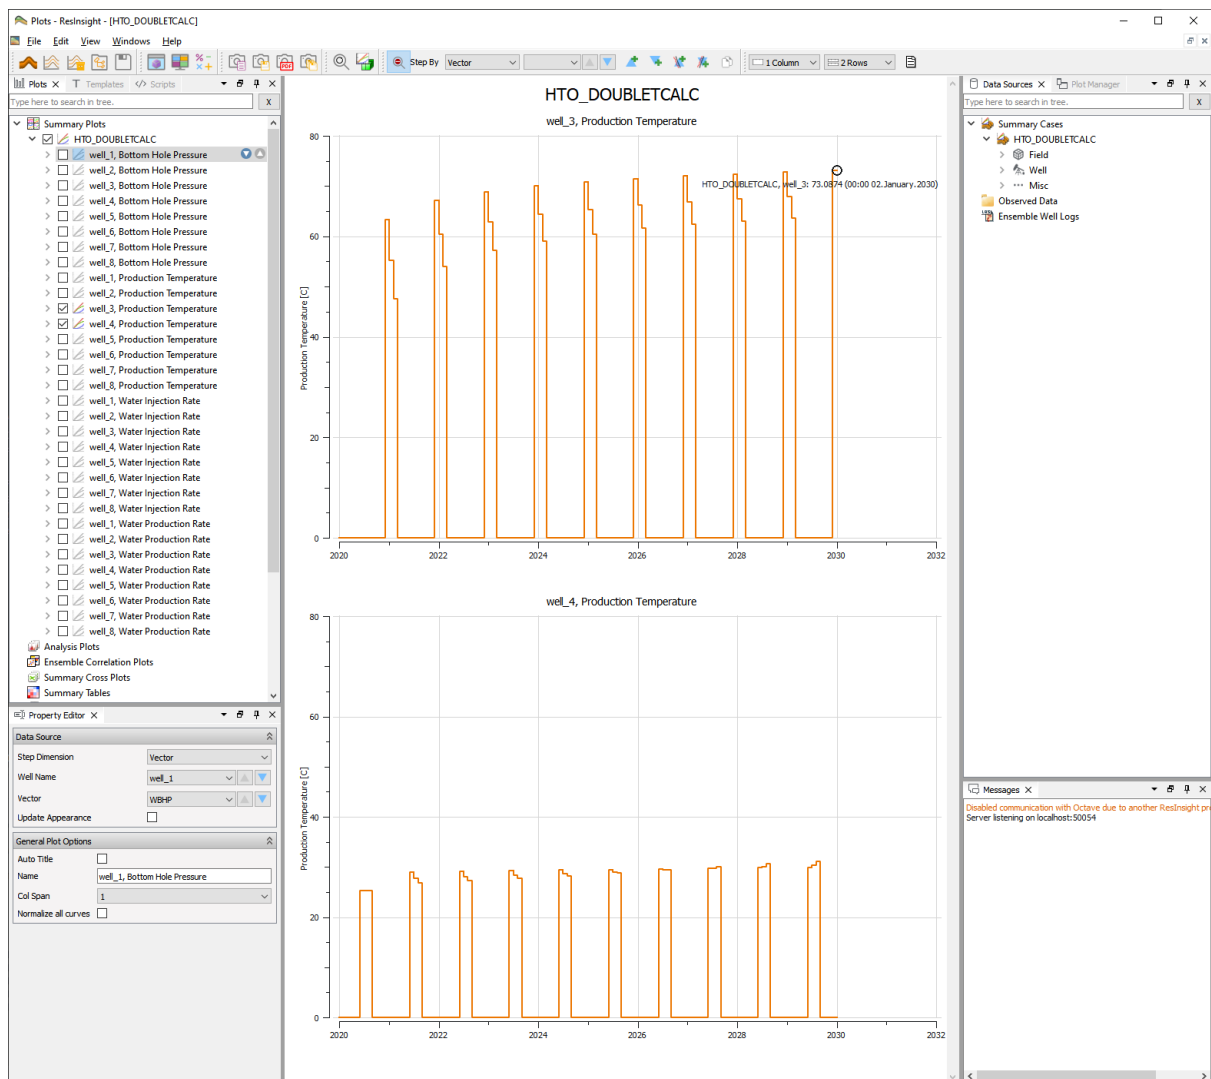
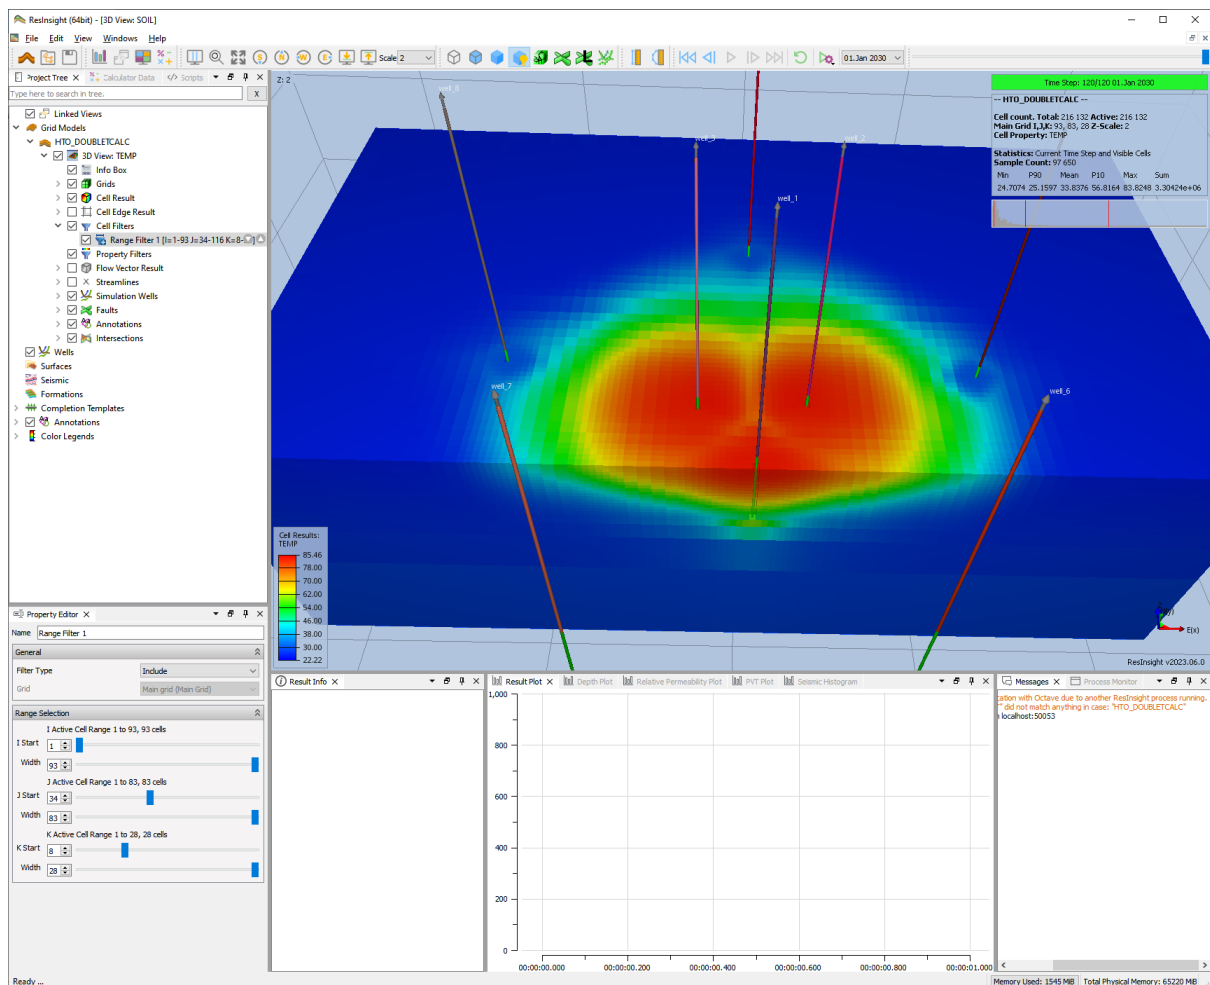

Figure 15: ResInsight 'Plots' for the HTO Demo model
Figure 16: ResInsight '3D View' for the HTO Demo model
4. See Figure 15 for the production temperature (WTPCHEA) evolution in the wells. The production temperature is zero during rest and injection. The operating wells, for instance 'well\_3', shows a decreasing production temperature during each winter, when the hot water bubble is drained. The production temperature increases over the years, showing the 'charging' of the HTO. Figure 16 shows the temperature field after 10 years of production.